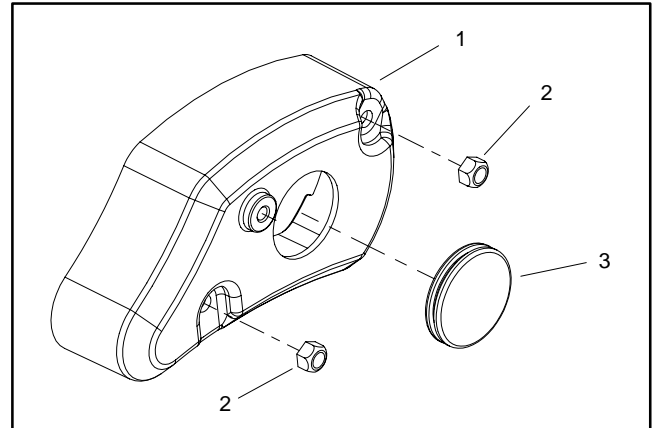

Figure 4
3. Remove two (2) lock nuts that secure groomer belt cover, then remove cover (Fig. 4).
6. Secure belt cover to housing with two (2) lock nuts (Fig. 4).